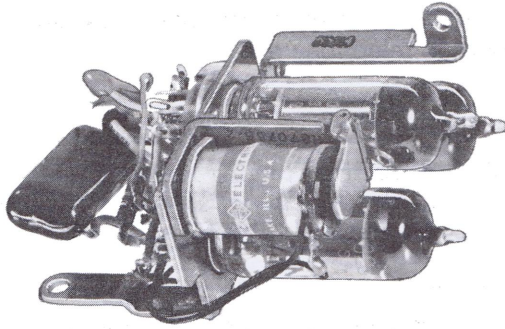

Figure 11. Common Audible Signal Unit.
- (a) A common audible signal unit (Figures 11 and 12), to serve all lines, may be installed in the Type 187 Telephone Set.
2.31 Where additional signal must be provided at the station for each line accessed, a common audible signal unit (Figures 11 and 12) may be mounted in the space provided for the ringer.
2.32 The common audible signal control shown in Figures 11 and 12, as wired at the factory (with X-strapping included) provides a cold cathode tube wired in common to a relay-buzzer for each of three lines terminated on the set. The cathode of each tube is connected individually to the line conductor over which the station will be rung. The anodes of the tubes are connected through 100K isolation resistors to ground. A 0.5 microfarad capacitor connected in parallel with the buzzer serves to shape the waveform and improve the buzzer tone. The X-strapping option is used in exchanges equipped with a ground-connected ringing generator.